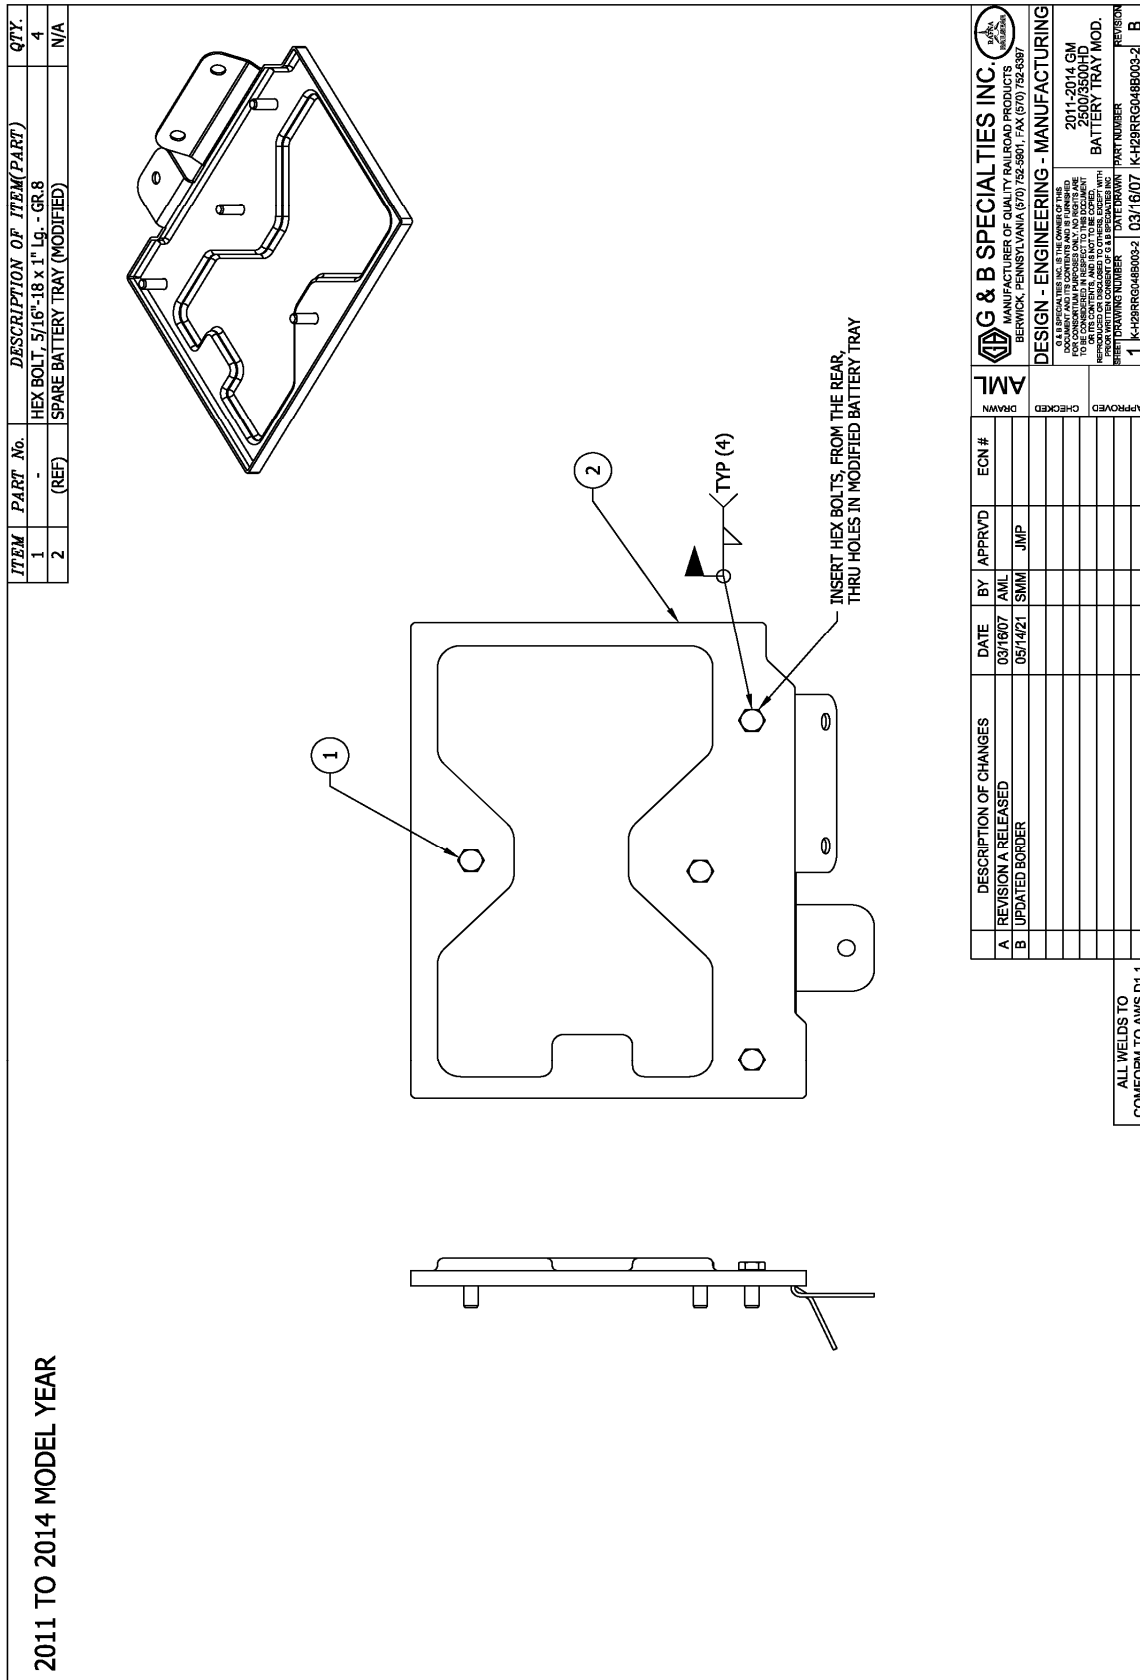

Figure 3 (2011 TO 2014 MODEL YEAR)
4. From the back side of the battery tray, weld (4) 5/16"-18 x 1" long hex bolts to the battery tray as shown. (Figure 3)